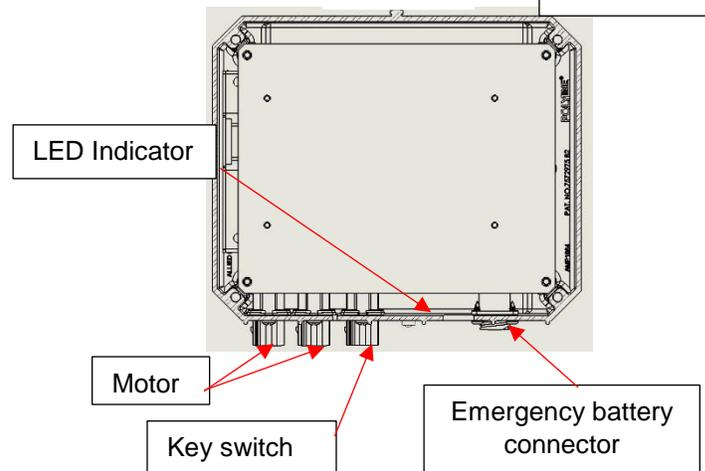

Figure 103
- 3) Start by connecting the two motor jack harnesses to the AC control box (Figure 103). **Use the wires that were connected in step 13 in the *lifting mechanism assembly* section.** Put the exceeding wires as close to the swim spa as possible to hide and protect the wires. (Figure 105)